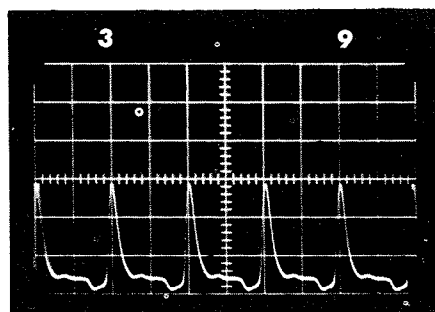

Fig. 3.
Step 4 Set TIME/CM switch to .5 μ sec/cm. Apply 1 μ sec markers to VERTICAL INPUT. Adjust C160A for 1 mark per 2 cm using the third and ninth vertical graticule lines. See Fig. 3.